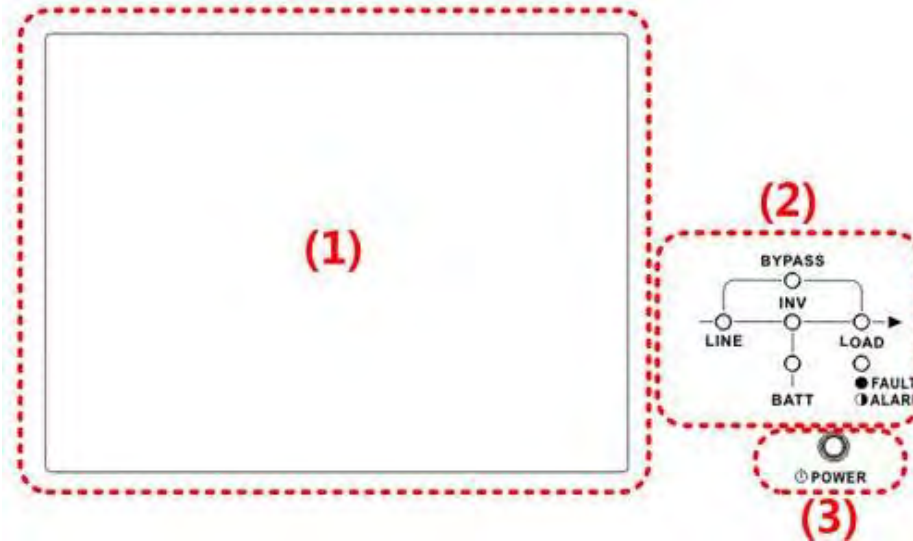

Figure 3-1 Control Panel
This control panel and display screen are located at the front panel of the UPS. This interface allows to monitor all measured parameters, the UPS status, the battery status and alarms. The control interface is divided into four sections: (1) LCD display, (2) LED indications, (3) Power Button, (4) Audible Alarm, as shown in Figure 3-1.